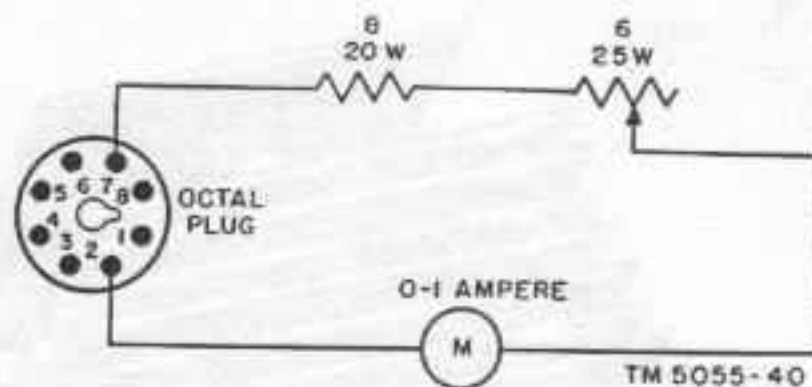

Figure 36. Selenium cell regulator CR1, adjustment setup.
(1) The following parts and equipment will be required to perform these adjustments: one 8-ohm 20-watt resistor, one 6-ohm 25-watt adjustable resistor, an octal plug, and a 0-1 ampere dc ammeter. Connect these components in a series arrangement to form a test circuit; be sure to include the arm of the adjustable resistor. Terminate the test circuit at pins 2 and 7 of the octal plug (refer to fig. 36).